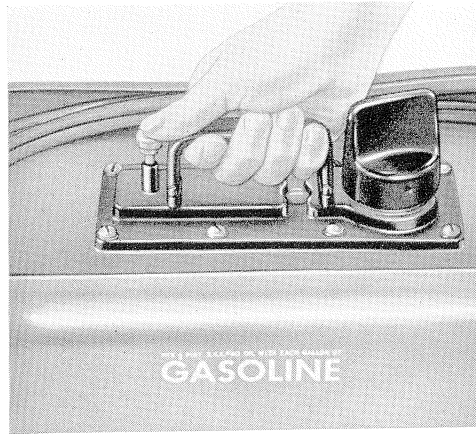

Figure 11
1. Depress pump button on the tank several times as shown (Fig. 11). Note that pressure required to operate the pump increases as the fuel line and carburetor fill up—*this is your signal to stop pumping*. Do not force the pump beyond this point. Excessive pressure may flood carburetor.